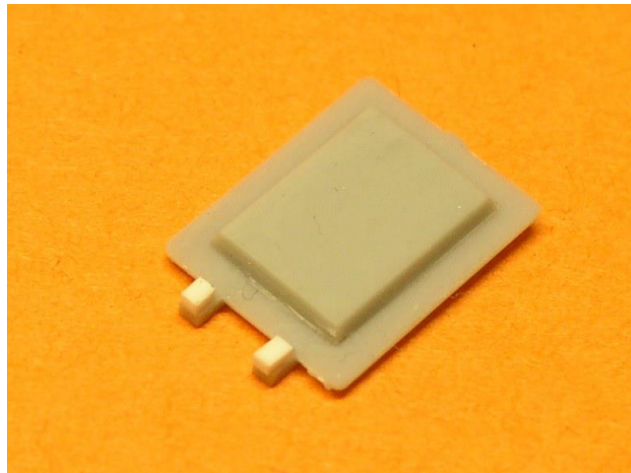

Figure OH3
4. Glue the 4 ½" x 3 ½" to under the hinges of the hatches. See figure OH3.